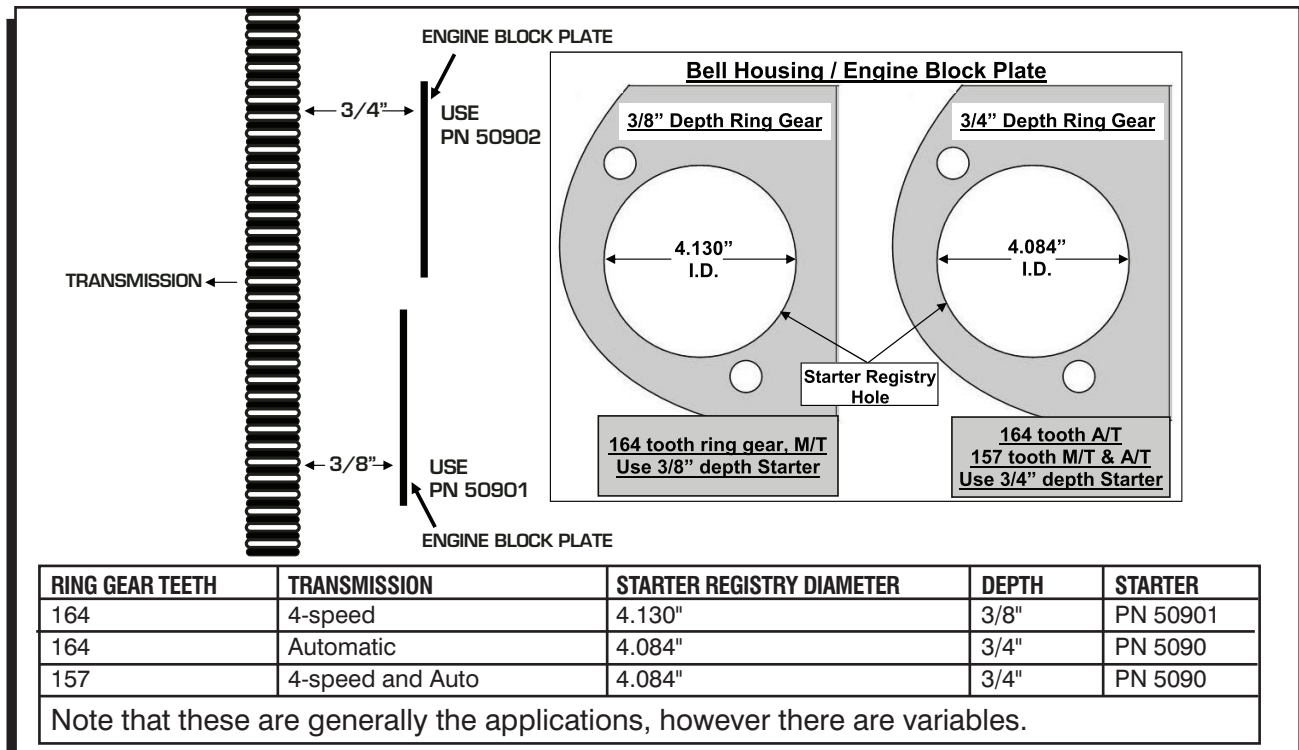

Figure 1 Ring Gear Depth and Bell Housing/Engine Block Identification.
When selecting a starter for your Ford, our research has found that year, model and drivetrain combination do not always dictate the correct starter. There are variations between the 164 tooth and 157 tooth flywheels and well as the inside diameter of the starter block plate (4.130" or 4.084"). MSD offers two starters for the 289/302 and 351W engines; one with a 3/8th depth ring gear, one with a 3/4" depth. Figure 1 shows the differences and applications.
3. Check that the position of the solenoid is away from direct heat sources and other components. If there are clearance problems, the starter housing can be rotated to move the location of the solenoid. This is done by removing the three bolts on the mounting block and repositioning the starter motor (Figure 1).